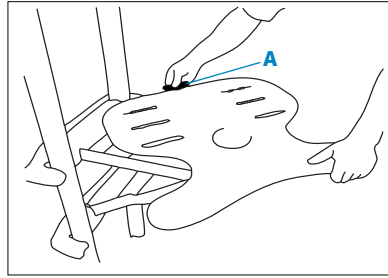

Figure 8a
Figure 8a: The trunk board can rotate to facilitate transfers to a stationary toilet. This feature does not function with the kneeboard attached. The trunk board must be horizontal before using the pivoting feature.
Figure 8a: The rotation of the trunk board can be set in 15° increments using the pivot latch. Press down on the pivot latch handle (A) firmly while rotating the trunk board. Release the latch and allow it to engage into the nearest position. The trunk board can be rotated 180 degrees.